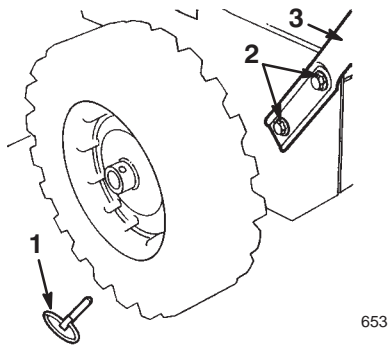

Figure 3
2. Remove the axle pins from both wheels (Fig. 3) and slide the wheels outward on the axle approximately one inch (2.5 centimeters).
4. Position the left side of the handle assembly against the left side of the snowthrower, align the handle mount holes with the holes in the side plate, and secure the left side of the handle assembly with two bolts and curved washers until they are finger tight (Fig. 3).